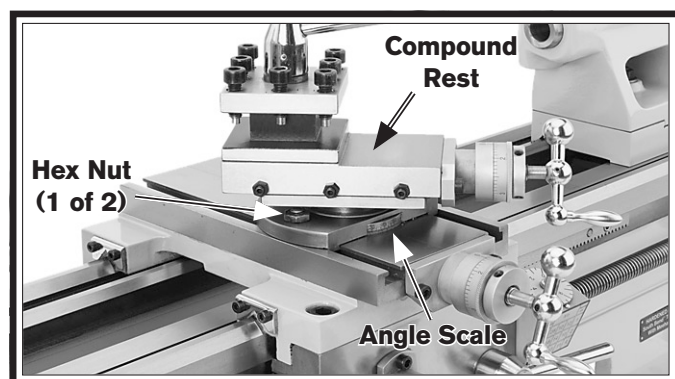

Figure 41. Compound rest.
1. Loosen the two hex nuts at the base of the compound rest (1 of 2 shown in **Figure 41**).